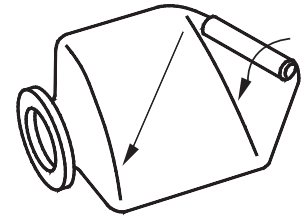

Figure 20 – Roll Diagonally Toward Neck
- b. To get tightest possible wrap, start on one side at top and **TIGHTLY** roll bladder diagonally to other side (see Figure 20). To force out as much air as possible, roll toward bladder neck opening.